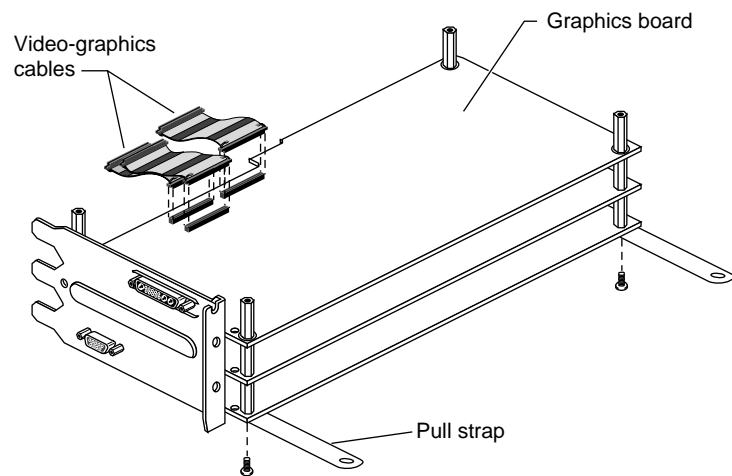
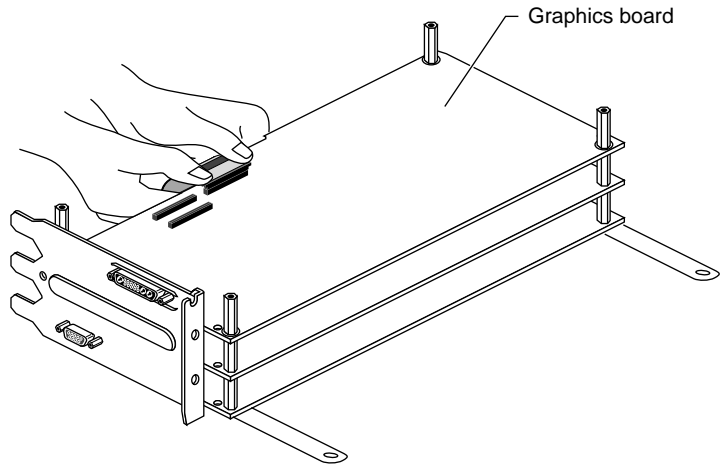

Figure 2-16 Attaching the Video-Graphics Cables to the Graphics Board
Figure 2-17 Squeezing the Video-Graphics Cables into the Connectors
1. Attach the two video-graphics cables to the graphics board connectors (Figure 2-16 and Figure 2-17).
Tip: Use your thumb and fingers to squeeze the cable connectors into the connectors on the board. (Figure 2-17).